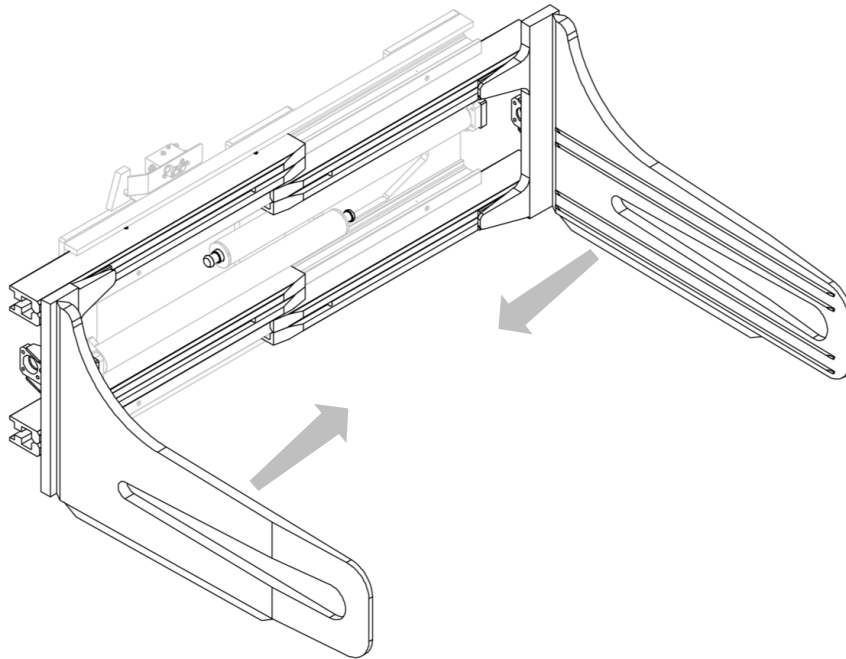

Figure 7
2. Insert the forks with their jaws, into their housings , positioning them correctly in relation to the cylinders (see *Figure 7*).